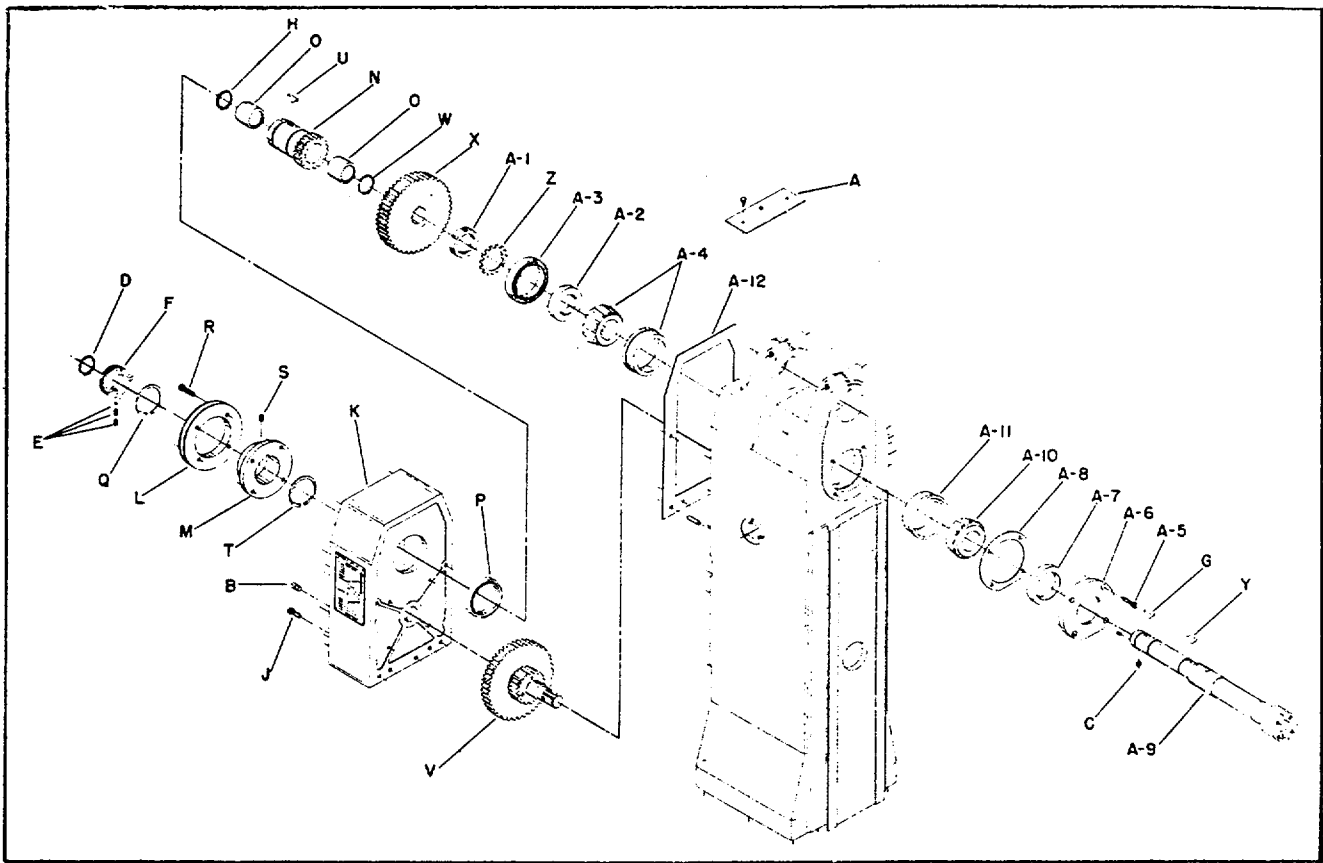

Fig. 22.
5. Remove the oil breather plate (A) Fig. 22 located on top of the gearbox and the oil drain plug (B) Fig. 22, and drain the oil from the gear box.
6. Remove the grease fitting (C) Fig. 22, located on the end of the spindle, and remove the snap ring (D).
7. Remove set screw, spring, and ball, (E) Fig. 22 Then remove the clutch half (F) and key (G).
8. Remove snap ring (H) Fig. 22, and remove four cover plate screws (J).
9. Remove gear box cover plate (K) Fig. 22. Spindle pulley (L), snap ring (Q), plate (M), clutch half (N), two needle bearings (O), and oil seal (P) will come off with the cover plate. If any of these parts are to be replaced, remove snap ring (Q), four screws (R), pulley (L), set screw (S), plate (M); and snap ring (T). Then remove key (U), and slide clutch half (N) out of the gear box cover plate (K). When reassembling these parts, we recommend that the oil seal (P) be replaced and the clutch half (N) placed on the spindle before gear box cover plate (K). Then wrap the clutch half (N) with cellophane tape so that when the cover plate (K) is placed on the frame the oil seal (P) is not damaged.
10. Remove jackshaft gear cluster (V) Fig. 22.
11. Remove snap ring (W), bull gear (X), and key (Y) Fig. 22.
12. Unlock bearing lockwasher (Z) and back off bearing locknut (A-i) Fig. 22. Using a spanner wrench remove bearing adjusting nut (A-2). When replacing bearing adjusting nut (A-2) tighten the nut with a spanner wrench until it takes a torque of 15 inch pound to turn spindle.
13. Remove oil seal (A-3) Fig. 22. The rear tapered bearing assembly (A-4) can then be removed from the spindle.
14. Remove four screws (A-5), retainer (A-6), oil seal (A-7), and gasket (A-8) Fig. 22.
15. Then remove the spindle (A-9) Fig. 22. It may be necessary to use a soft hammer or a block of wood to drive the spindle out through the front of the machine. The tapered bearing cone (A-10) will probably come off with the spindle and the bearing cup (A-11) can then be removed from the machine